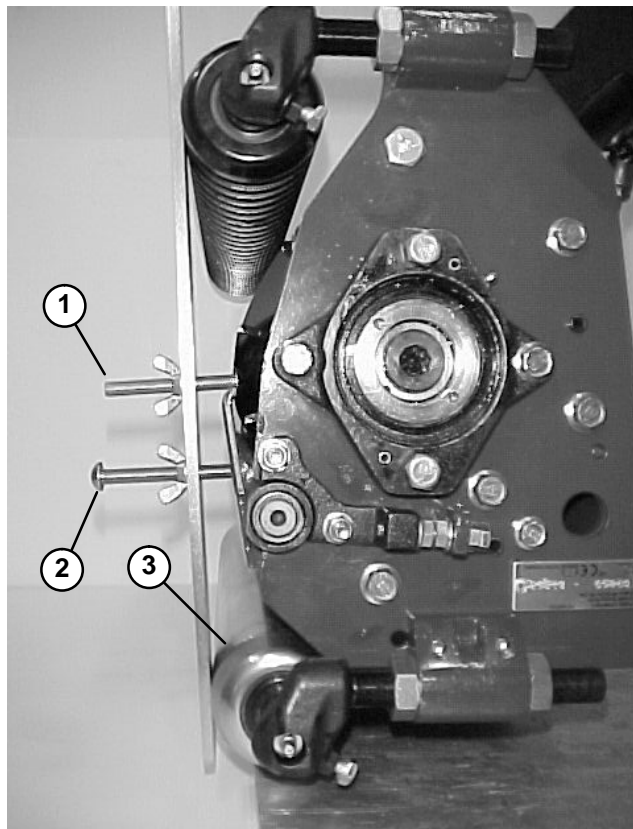

Figure 19
1. Rotate the cutting unit vertical and place the gauge bar across front and rear rollers (Fig. 19).